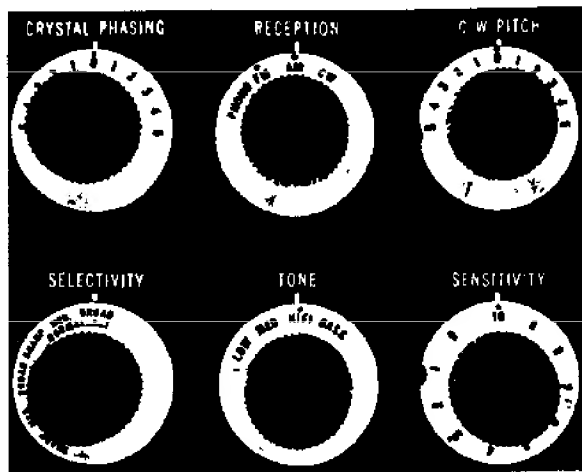

Figure 5. View showing six right hand controls
4. Set the six right hand control knobs to the red dot setting. (See Fig. 5.)